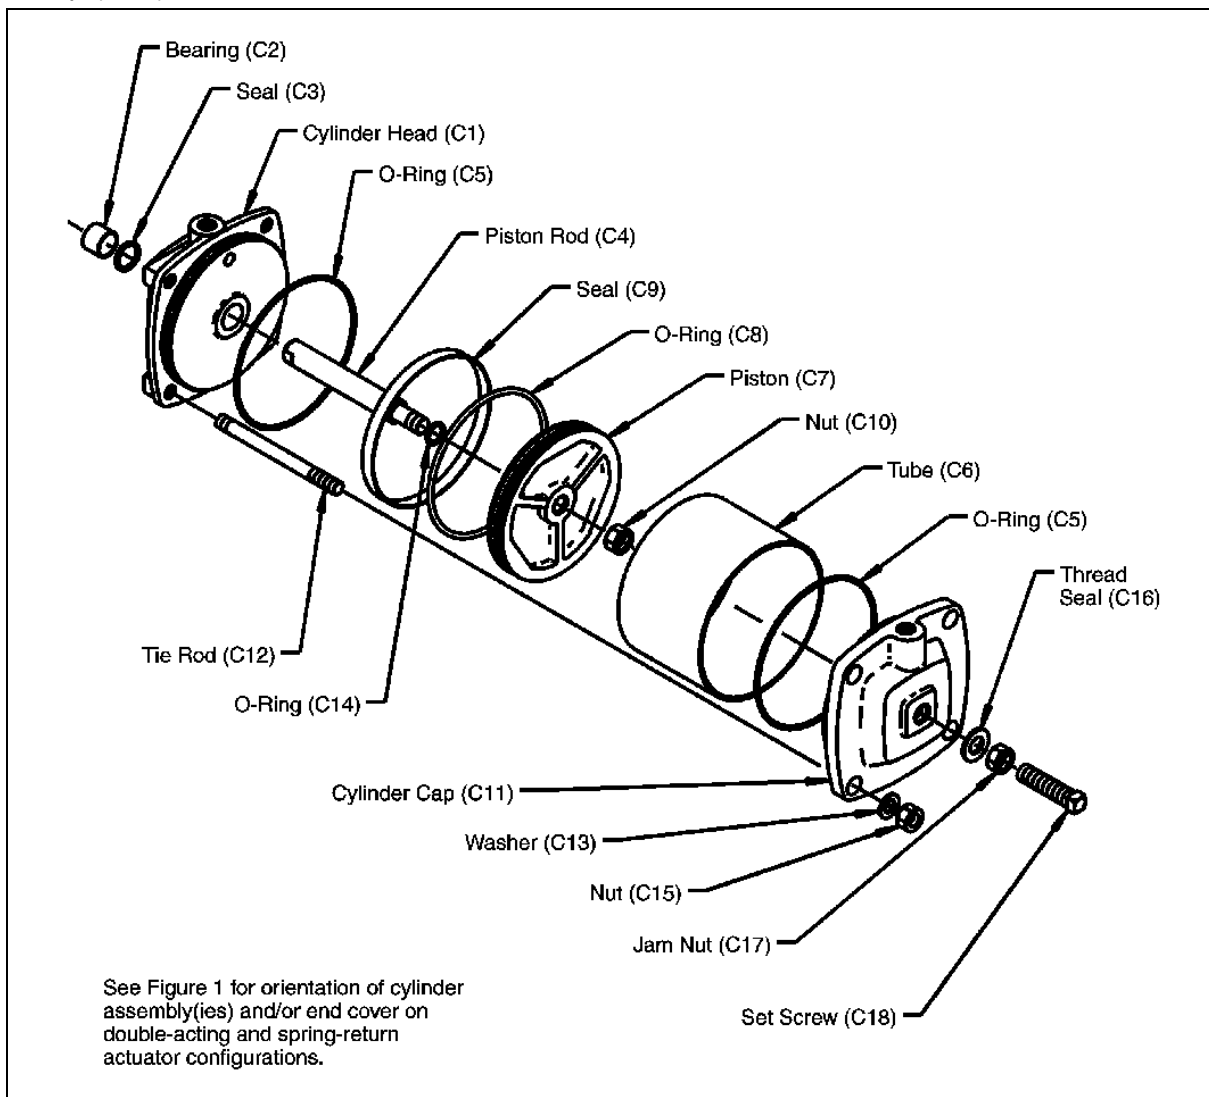

Figure 3—Double-Acting Cylinder Assembly
Note: The double-acting cylinder assembly is part number C00—see Figure 3.
Note: The double-acting cylinder assembly is shown in Figure 3.
5. Remove the rack screw (B7) and lockwasher (B6), and separate the rack (B5) from the piston rod (C4) [C4 is shown in Figure 3].
Refer to Figure 3 for component identification.
Clean and inspect all parts. Refer to Figure 3 for component identification.